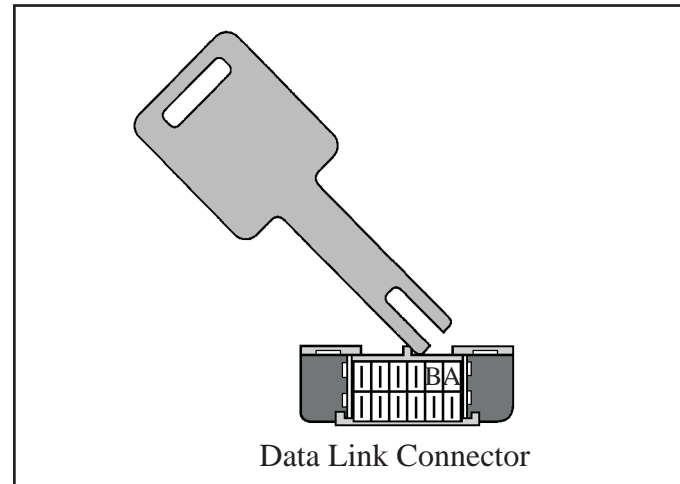

Figure 17
The provision for communicating with the PCM is the data link connector (DLC) which is located under the instrument panel (See Figure 17). The diagnostic trouble code(s) or information flag(s) stored in the PCM's memory can be read either through a hand-held diagnostic scanner plugged in the data link connector or by grounding the diagnostic terminal in the data link connector. Once terminal B (The Diagnostic Terminal) is connected to terminal A (The Internal PCM Ground)
as shown in Figure 17 above, the ignition switch must be moved to the ON position, with the engine not running. At this point, the MIL telltale lamp should flash a Diagnostic Trouble Code (DTC) 12 three times consecutively (*Remember, the MIL telltale lamp is for PCM (EC) diagnostic trouble codes or SHIFT TO D2 lamp on 1991 and 1992 vehicles. The LOW COOLANT/HOT lamp is used on 1993 and 1994 vehicles for PCM (TC) diagnostic trouble codes*).